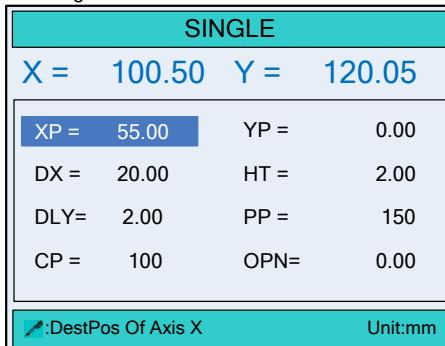

Figure 3-1 The **SINGLE** page
Step 1 When the E200+ device is electrified, wait a few seconds into the **SINGLE** page (Default page), as shown in Figure 3-1.